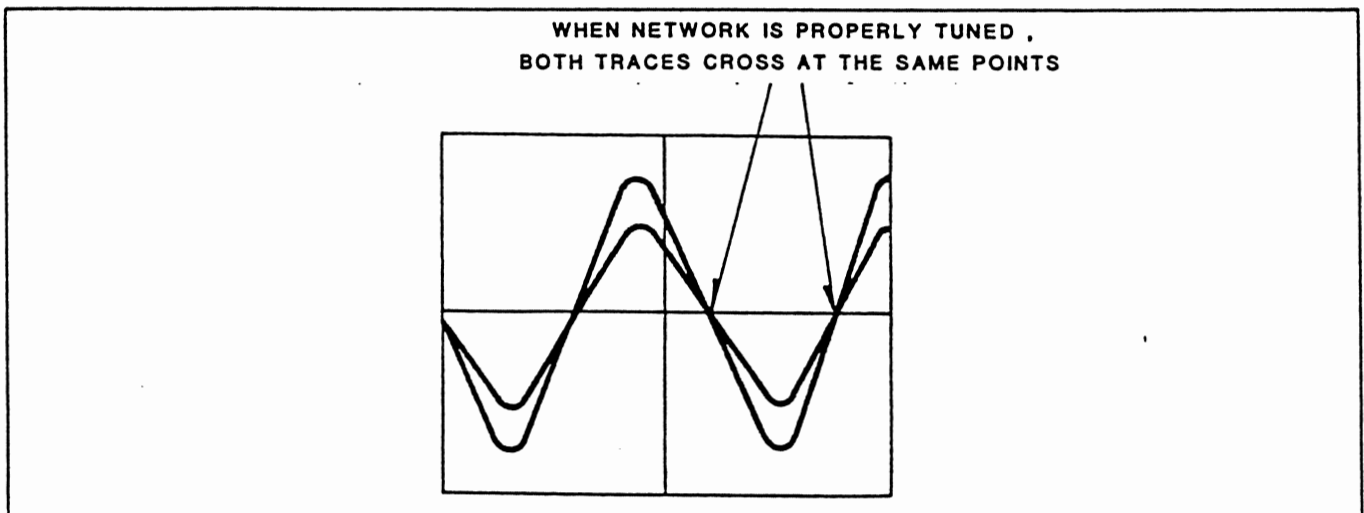

Figure 7. Oscilloscope Trace
7. Adjust the oscillator frequency so that the oscilloscope trace appears as shown on Figure 7. The tuning point should be within the frequency range shown on Table 5.
5. Connect the transformer into the test circuit shown on Figure 7.